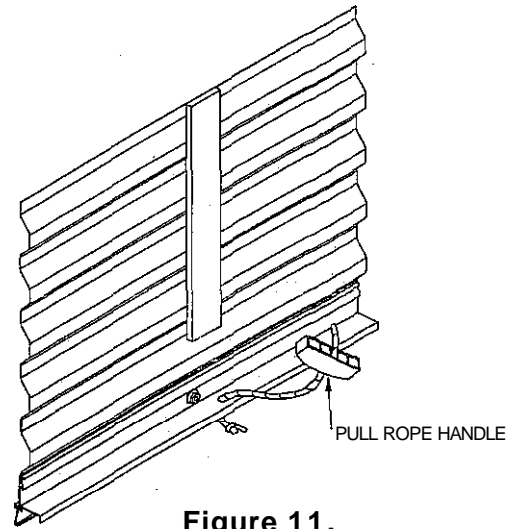

**Figure 10.**
8.1 Pull the door down to within 6" of the floor. See Figure 10. Adjust door guide on the side with the slide lock so there is 1/8" to 1/4" clearance between the plastic wear guard on the bottom of the door curtain assembly and the inside of the door guide. On the opposite side the wear guard should just touch the inside of the guide.
8.2 Attach the guides to the jambs with the fasteners provided (self-drilling sheet metal screws, lag bolts, or concrete anchors.) For masonry anchors, align clip with hole on the front of guide and flush with the back of the guide. Attach the clip to the guide with two TekScrews. See Figure 10. Drill a hole in the masonry and fasten the clip in place using anchors furnished.